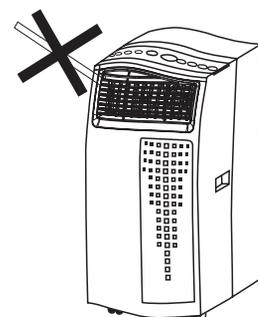

FIG. 2
- Do not cover or obstruct the appliance inlet or outlet grilles (Figure2).